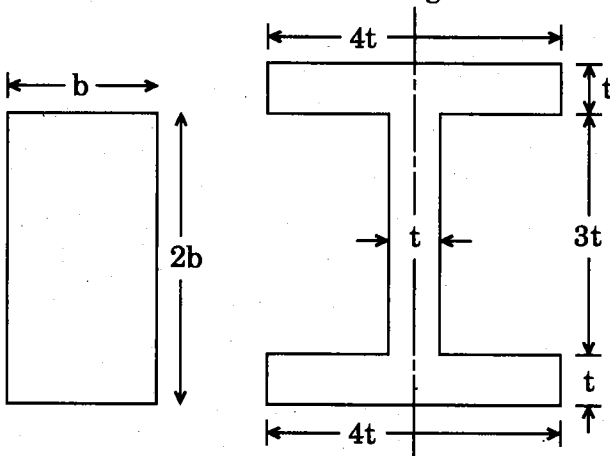

Figure 4
4. (a) A rectangular section ($b \times 2b$) is replaced by an I-section of the same area (of cross-section) as shown in Figure 4, for a beam of uniform section. Find the ratio of "moment of resistance" for these two sections. The material is same and is able to take same maximum bending stress.